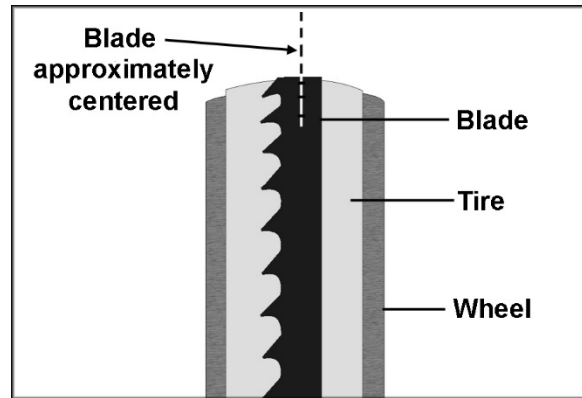

Figure 26: blade track
5. Open upper door to expose upper wheel. Rotate upper wheel by hand, and observe position of blade on the wheel through the tracking window. The blade should ride upon center of wheel (Figure 26).